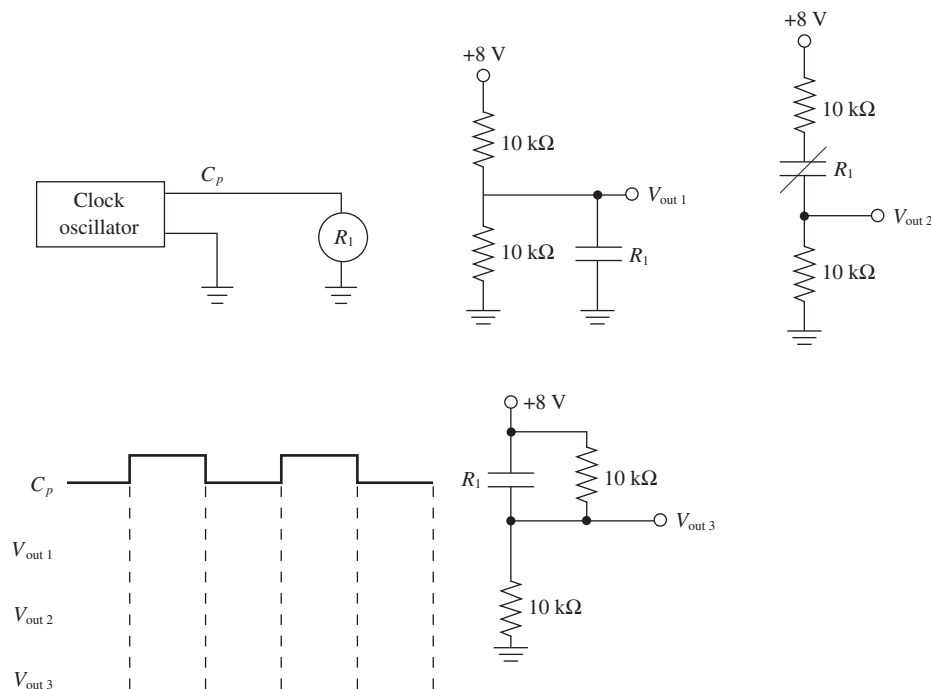

Figure P5
- C** 5. Draw the timing diagram for V_{out1} , V_{out2} , and V_{out3} in Figure P5.